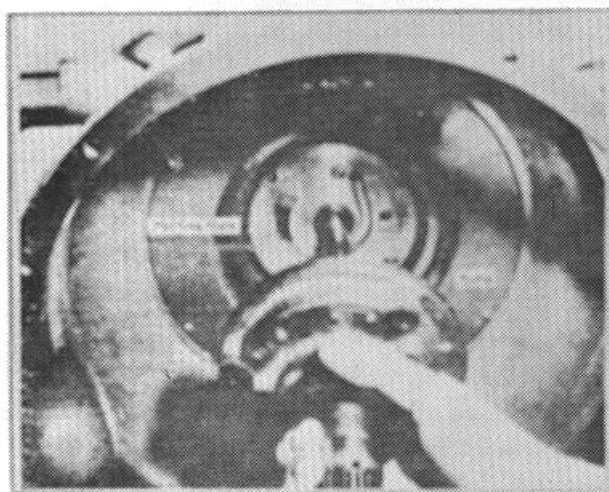

Figure 37.
2. Unscrew the four capscrews. Slide the pump off the shaft. (Fig. 37)